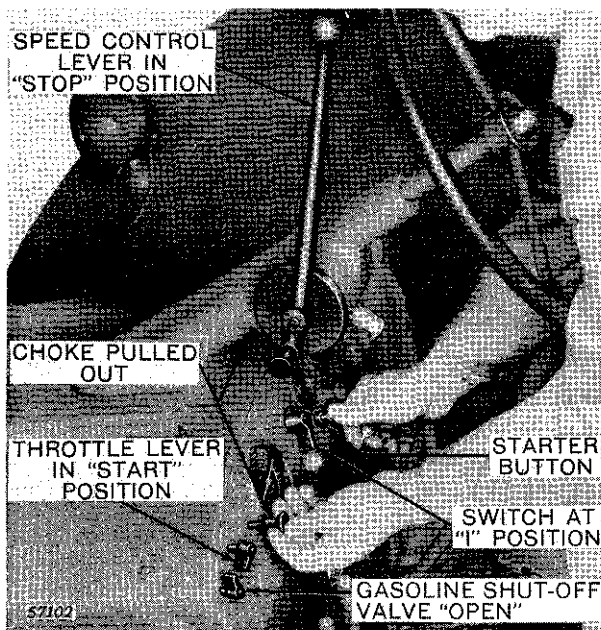

Figure 10-10-1—Starting the Cranking Engine
(1) Set gear shift lever in neutral and pull the diesel engine clutch lever to the disengaged position.
(2) In cold weather disengage the Powr-Trol pump to relieve drag on the engine caused by cold oil.
(3) Make sure that the fuel shut-off valve, located underneath the main fuel tank is open.
(4) See that the diesel engine speed control lever (Figure 10-10-1) is in the **stopped** position (all the way to the rear) with the stop button pulled out. The lever **must** be in this position.
(1) Open the gasoline shut-off valve two or three turns by turning the handle counter-clockwise (Figure 10-10-1).
(2) See that the cranking engine throttle lever is turned counter-clockwise to the "start" position.
(3) Turn the ignition switch to the "I" position (red light on).
(4) In cold weather pull out on the choke control knob. The engine will not continue to run with the choke in this position; therefore, when the engine starts, push the choke control knob in. It is not always necessary to choke the engine.
(5) Push the "starter" button. Release the button when the engine begins to run.